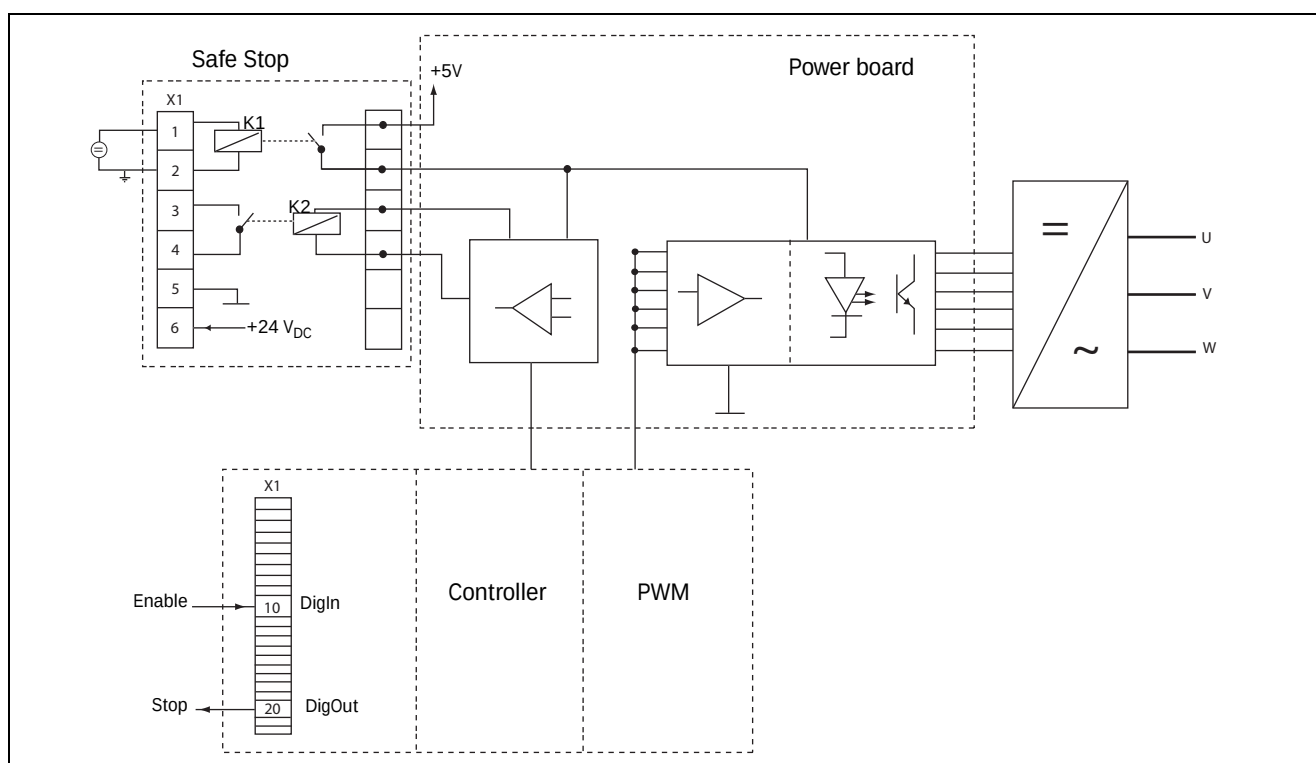

Fig. 105
connecting 24 V_{DC} to secure the supply voltage for the driver circuits of the power conductors via safety relay K1. See also Fig. 105.
- High signal on the digital input, e.g. terminal 9 in Fig. 105, which is set to "Enable". For setting the digital input please refer to section 11.5.2, page 126.
To monitor the "Enable" function, the selection "RUN" on a digital output can be used. For setting a digital output, e.g. terminal 20 in the example Fig. 105, please refer to section 11.5.4, page 132 [540].